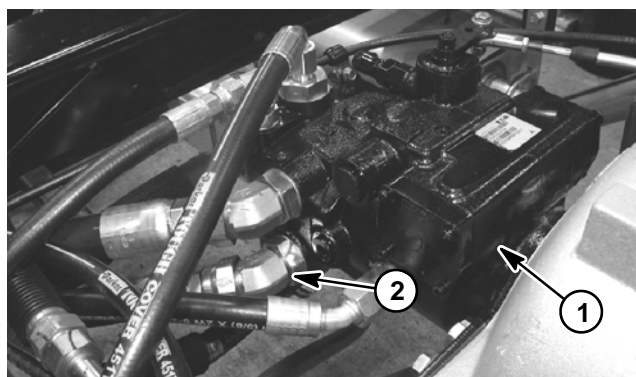

Figure 43
3. Thoroughly clean junction of hydraulic hose and **lower** fitting on right side of traction pump (Fig. 43). Disconnect hose from lower right side pump fitting.